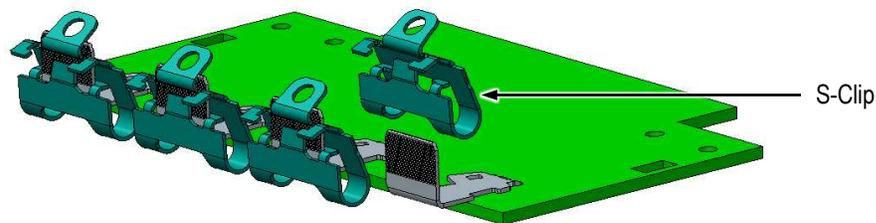

Figure 3
2. Install an S-clip onto each contact. See Figure 3.